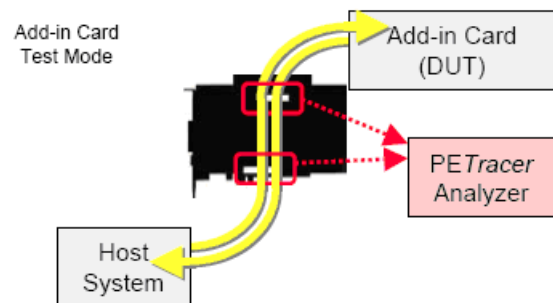

Figure 1. Host, PTC, and DUT Setup
2. Insert the PTC into the Host slot (see Figure 1).
3. Insert the DUT into the PCI Express connector of the PTC (see Figure 1).